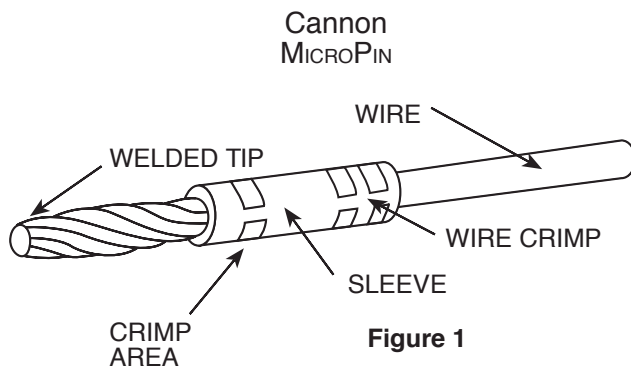

Figure 1
*Figure 1 - The Twist Pin Contact System consists of several stranded cores making up the wire bundle. The strands are subsequently heat treated and a weld is performed on the tip of each contact. Crimp sleeves are then inserted over the contact and crimp areas are defined to produce a seamless crimp system. The Twist Pin Contact System is referred by ITT Cannon as a Pos-A-Line contact alignment system. Our reference to this system identifies that the flexible Twist Pin is recessed into the insulator and the rigid socket is exposed thus reversing the traditional positions of the pin and socket. During the mating sequence, the socket is guided into the pin insulator by the lead-in chamfer. The pin is kept from flexing beyond the socket capture radius by the walls of the cavity. The hemispherical weld of controlled radius at the tip of the pin combines with the lead-in chamfer of the socket contact and the pin insulator to cam the pin in alignment. ITT Cannon has developed a very robust Six Sigma manufacturing process that controls the welding process as well as the dimensions of the socket contact and insulator material. The net result is a contact system that makes it impossible for the recessed pin to escape the socket capture radius.